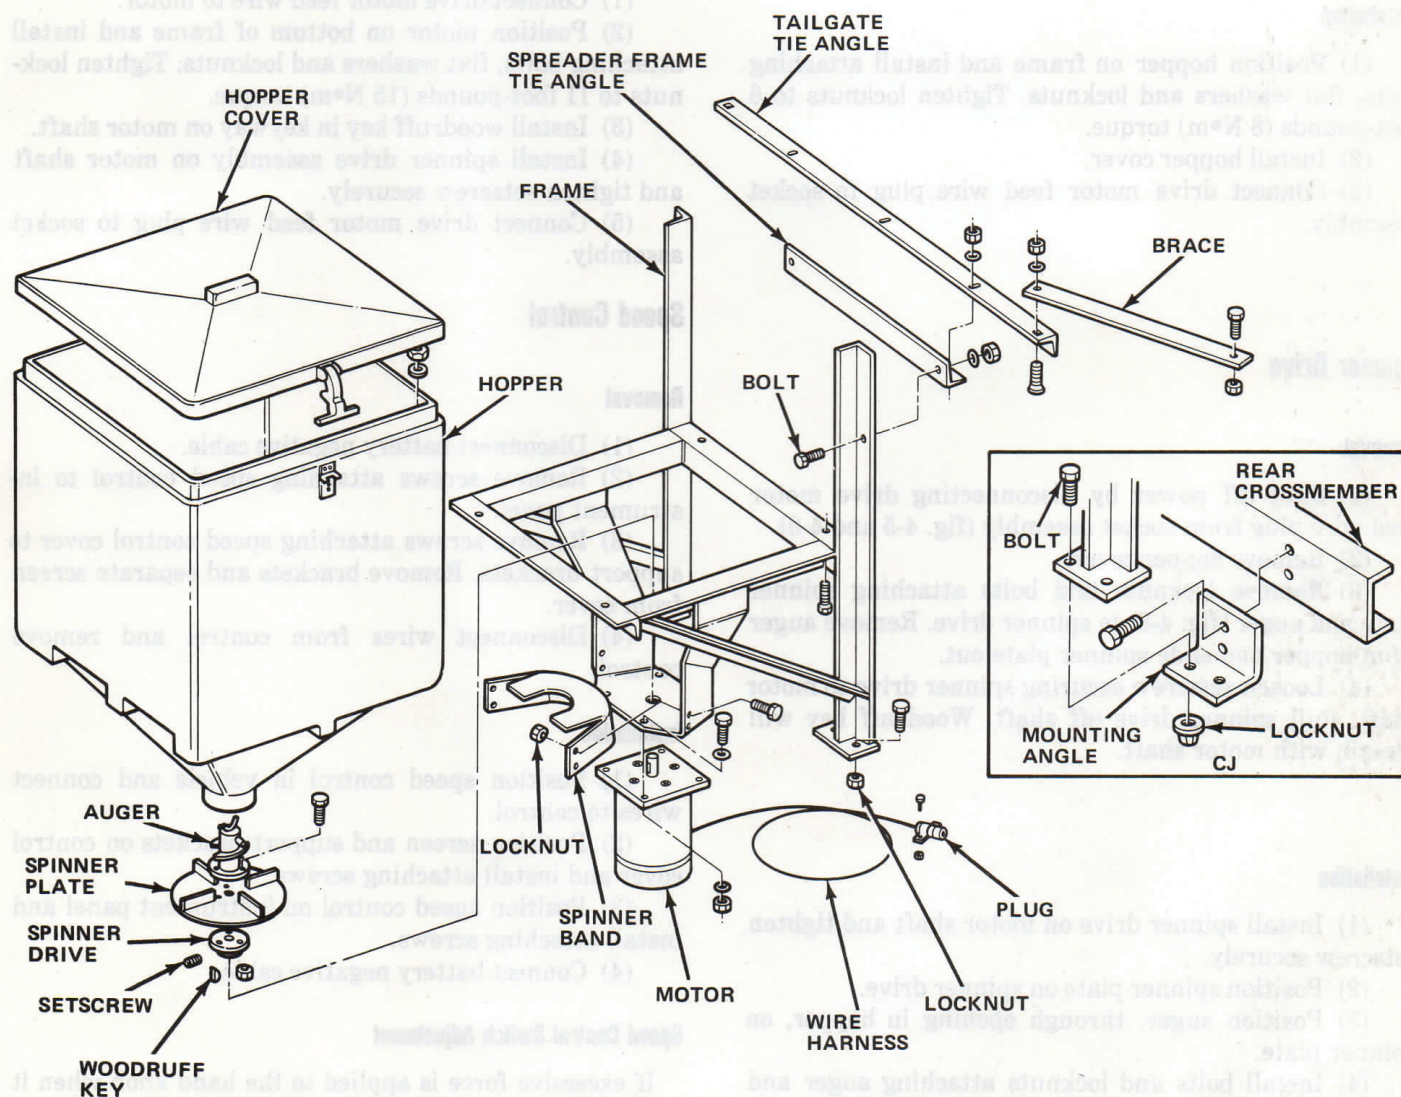

Fig. 4-8 Mini-Spreader Assembly Components and Hardware
(2) Remove hopper cover (fig. 4-8).
(3) Remove locknuts and bolts attaching auger and spinner plate to spinner drive.
(4) Remove auger from inside hopper and remove spinner plate from under hopper.
(3) From inside hopper, remove locknuts, flat washers, and bolts attaching hopper to frame.
(4) Remove hopper.
(2) Remove hopper cover.
(3) Remove locknuts and bolts attaching spinner plate and auger (fig. 4-8) to spinner drive. Remove auger from hopper and slide spinner plate out.
(4) Loosen setscrew securing spinner drive to motor shaft. Pull spinner drive off shaft. Woodruff key will remain with motor shaft.
(2) Loosen setscrew attaching spinner drive to motor shaft (fig. 4-8).
(3) Remove spinner drive assembly from motor shaft.
(4) Remove locknuts, flat washers, and bolts attaching motor to frame.
(5) Remove motor and woodruff key from motor shaft.
(6) Disconnect drive motor feed wire from motor.